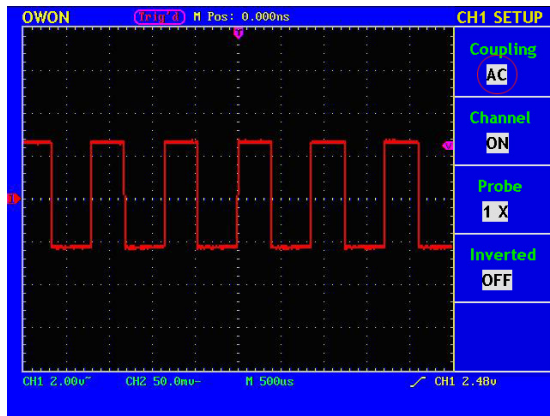

Fig.15 AC Coupling
- Press **F1** next to Coupling and select “AC”, now DC component is blocked from input signal. See Fig.15.